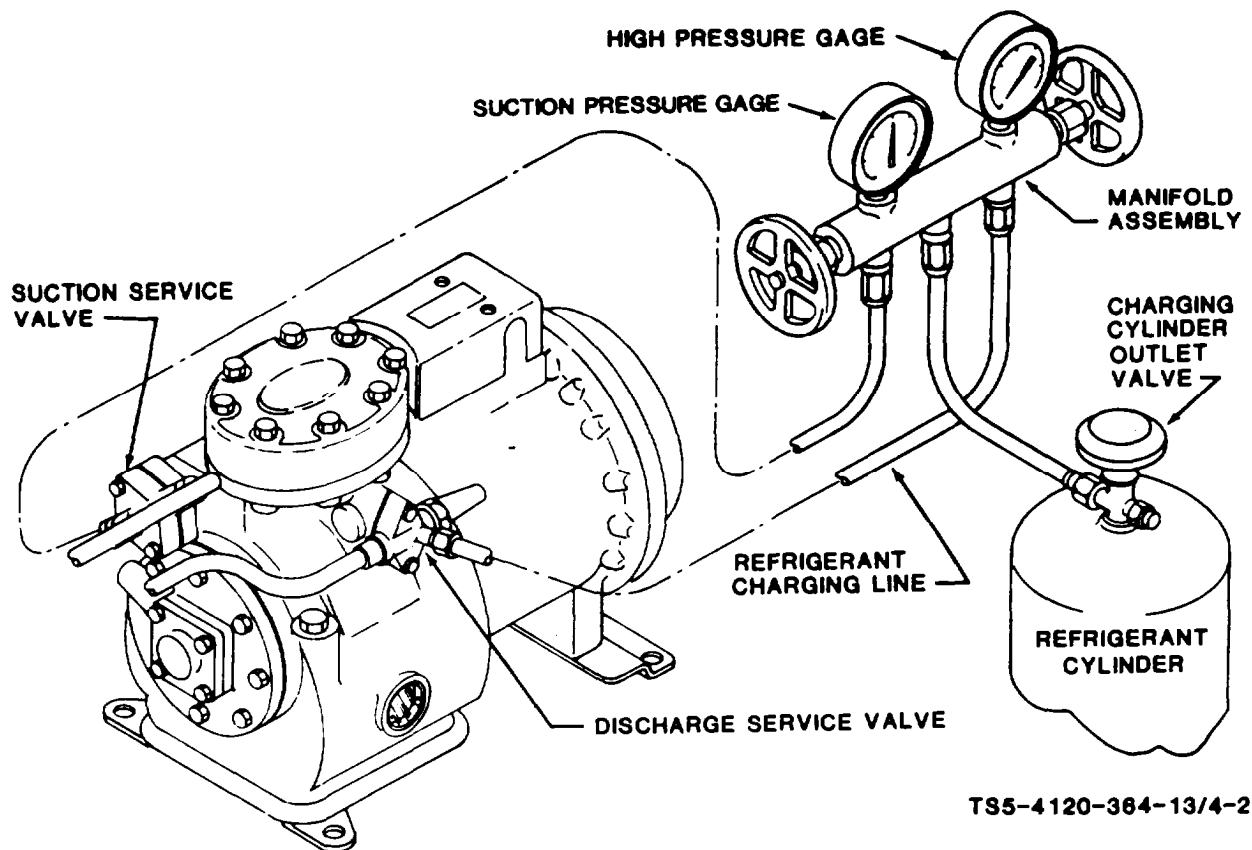
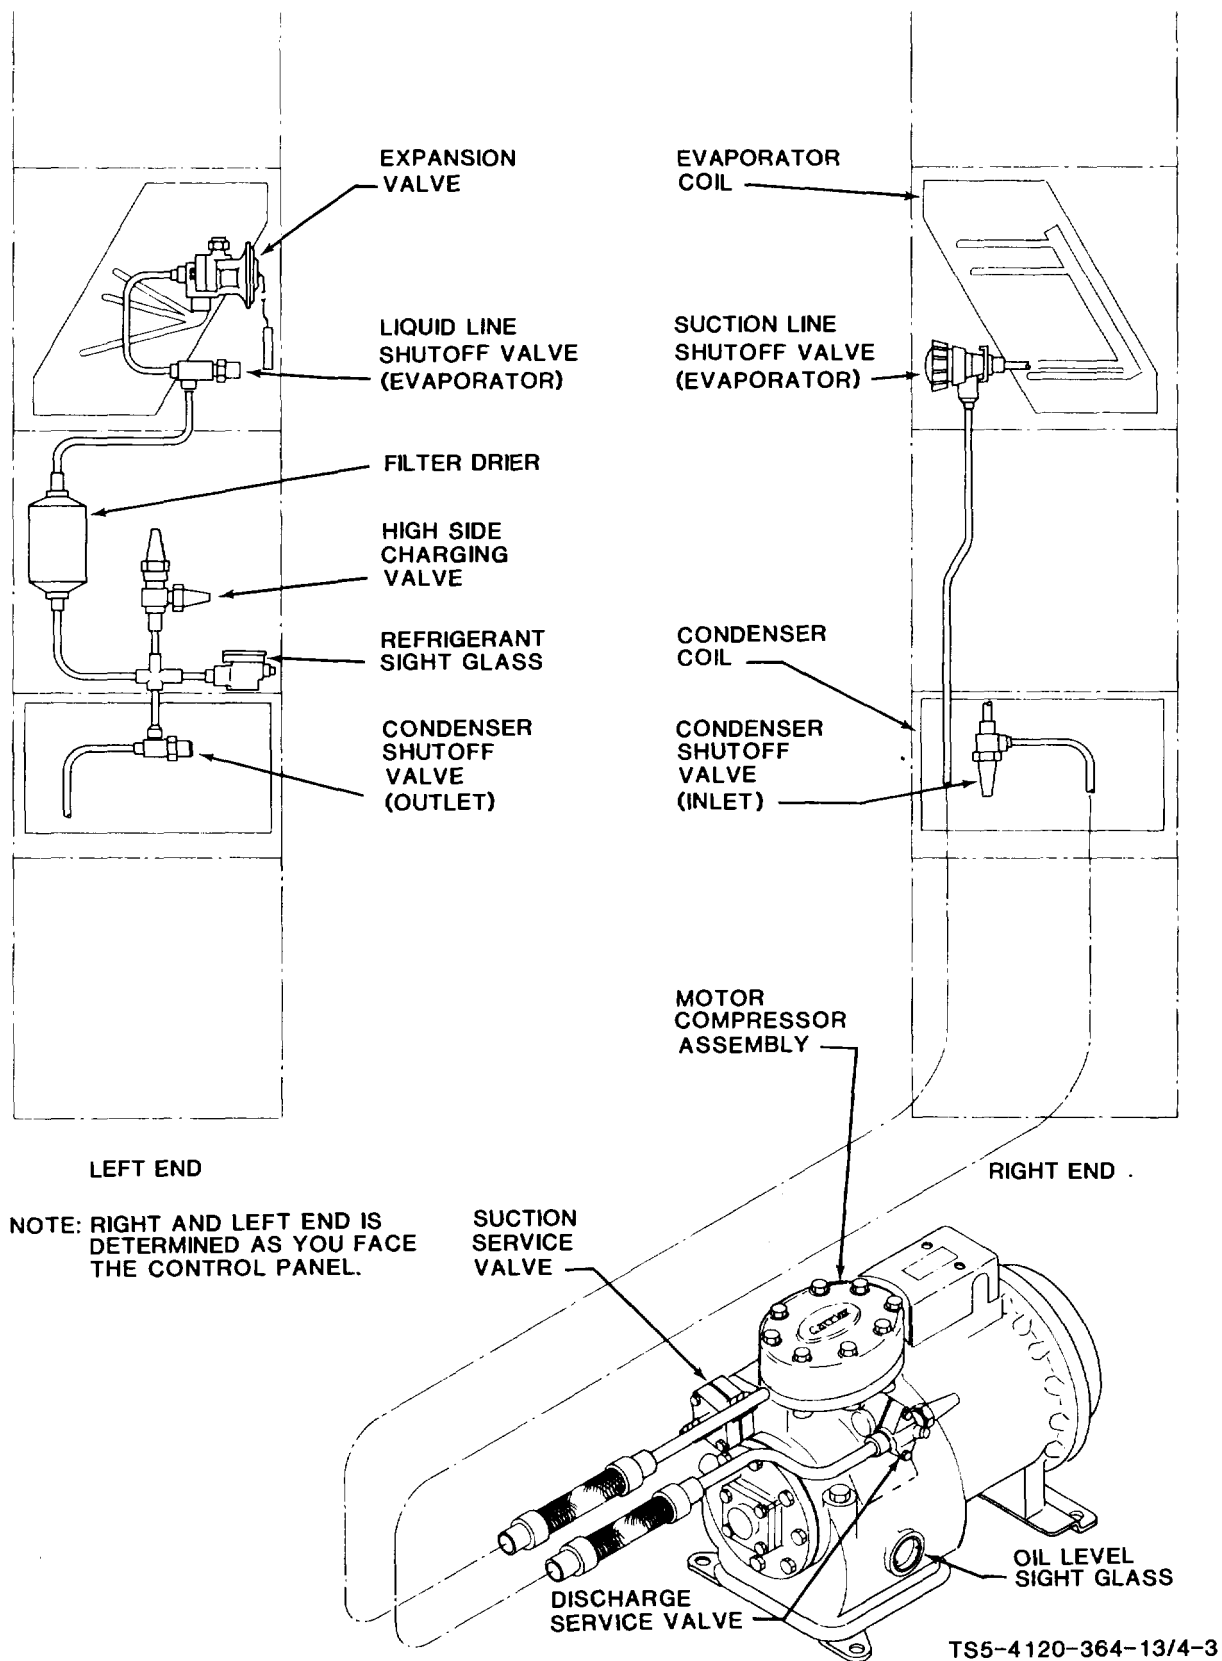

Figure 4-2. Installation of pressure gages
Figure 4-3. Location and function of refrigerant valves
a. Refer to figure 4-2 and backseat the suction service valve and remove cap from port.
valve. (Refer to figure 4-3).
(2) Close the condenser shutoff valve (outlet) by turning valve stem fully clockwise.
(3) Install a suction pressure gage on the compressor suction service valve as shown in figure 4-2.
(4) Operate the unit until suction pressure gage registers 5 to 10 inches (12.75 to 25.5cm) of mercury vacuum.
(5) Shut off machine and observe pressure gage for a few minutes. If pressure rebuilds, repeat step (4) until pressure does not rebuild appreciably.
(6) Crack condenser shutoff valve (outlet) until 3 to 4 psig is indicated on the suction pressure gage.
(7) Close condenser shutoff valve (inlet) by turning valve stem clockwise as far as it will go.
(8) Remove suction pressure gage from compressor suction service valve.
b. Adding Refrigerant. When adding refrigerant to the system, connect the service gage hookup shown in figure 4-2 and proceed as follows:
(1) Turn stem of suction service valve counterclockwise as far as possible.
(2) Connect a line from the R-12 charging cylinder to connection on compressor suction valve. Leave connection loose at the compressor valve and open charging cylinder outlet valve long enough to purge all air from the charging line through the loose connection. Tighten charging line connection at compressor suction valve when gas can be heard escaping from the loose connection.
(3) Turn suction service valve clockwise 3 or 4 turns.
(4) Open charging cylinder outlet valve 1 or 2 turns.
(5) Turn selector switch on air conditioner control panel to COOLING.
(6) Observe sight glass while the unit is operating. When frothiness disappears, turn suction service valve counterclockwise as far as it will go. Watch sight glass for approximately 10 minutes to be sure bubbles do not reappear.
(7) Close outlet valve of charging cylinder and backseat the suction service valve.
(8) Disconnect charging line from suction valve and replace cap.
(9) Return unit to normal operation.
(1) Front seat the discharge service valve if it is open. (See figure 4-3). Remove plug from the service port of the suction service valve on the compressor. (See figure 4-2).
(2) Open the receiver outlet valve slightly and allow gas to escape through the suction valve port for a few seconds. Replace the plug on the service valve port.
(3) Open the receiver outlet valve slightly and build pressure to 30 pounds.
(4) Open all valves fully and place the unit in operation to inspect the refrigerant charge.
(1) Open the discharge service valve (figure 4-3), about halfway so the port is open to the condenser. Remove plug from service valve port.
(2) Open condenser shutoff valve slightly and allow gas to escape for a few seconds. Replace plug on service valve port.
(3) Open receiver outlet valve slightly and build pressure to 30 pounds. Test for leaks using available leak detector.
(4) Open all refrigerant valves (turn discharge service valve one-half turn clockwise) and place unit in operation to inspect refrigerant charge.
- (1) Attach charging line to suction service valve port. (See figure 4-2).
- (2) Backseat the discharge service valve and remove the plug from the port.
- (3) Open the suction service valve so both port and compressor are open.